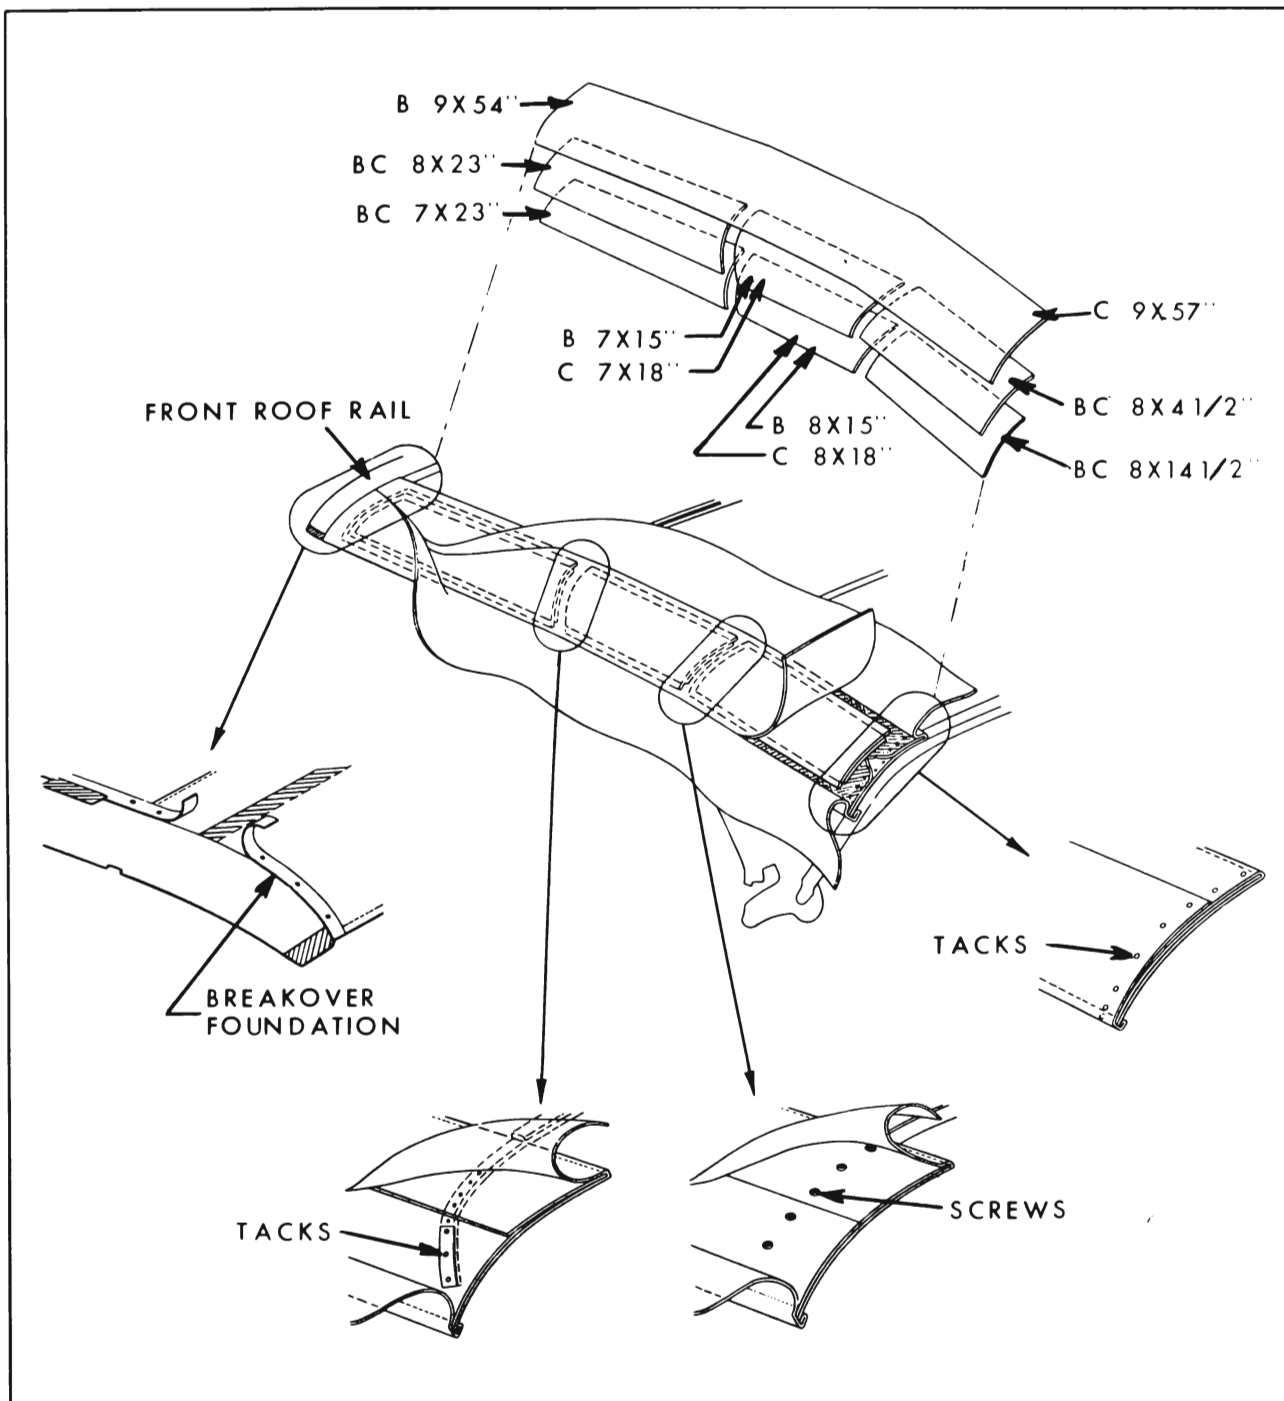

Figure 7-28—Installation of Side Stay Pads
3. Tack side stay pads in conventional manner to rear roof bow. Stay tack pads to front roof rail and front bow (see Figure 7-28). Install stay pad wadding in conventional manner using an approved trim cement.